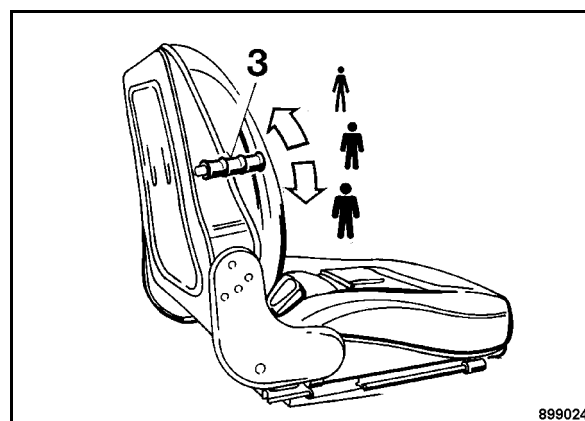

Fig. 50
- Operate lever 3 (Fig. 50) to adjust the seat to the weight of the operator.